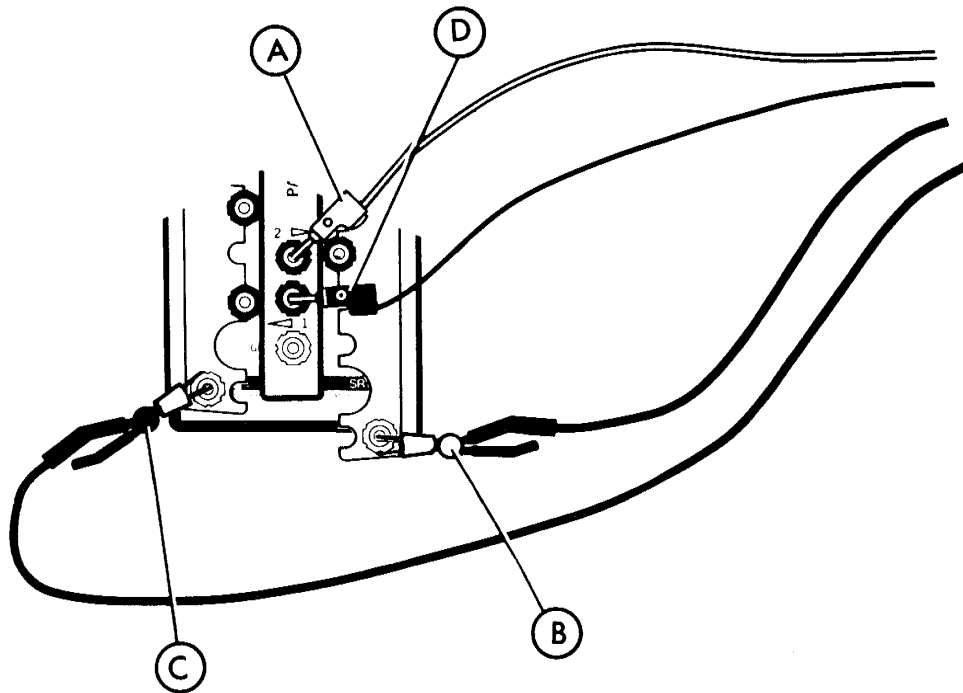

Figure 5-9. Lead Connections to the SR1030 Parallel Set Up
8. Make the 242D lead connections to the SR1030. Reference Figure 5-9.